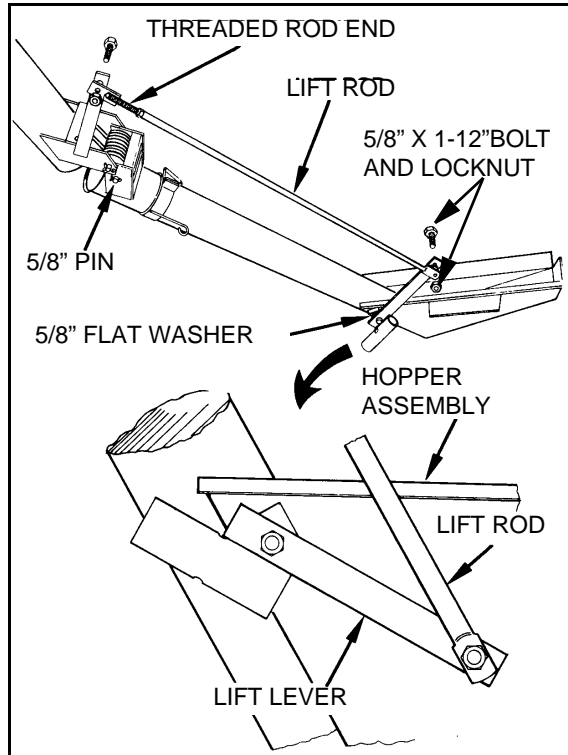

Figure 3.5 Threaded Rod End
5. Slip a 5/8" flat washer and the lift lever onto welded bolt on the hopper (Figure 3.5) and secure with a 5/8" locknut. Tighten snug only, as this acts as a pivot point.
6. Attach the lift rod to lift lever (Figure 3.5) with a 5/8" x 1-1/2" bolt and locknut. Tighten snug only; this bolt acts as a pivot point.